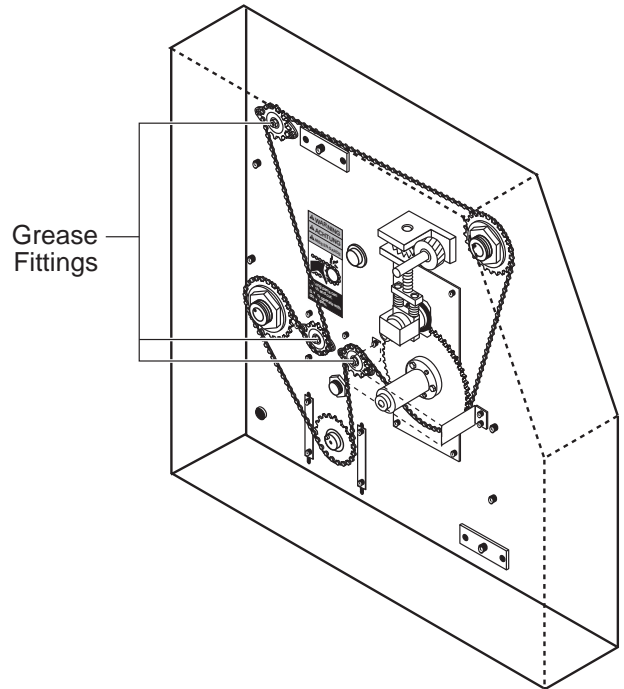

Figure 4-7: Grease Fittings
2. Using the grease gun, lubricate each grease fitting (shown in Figure 4-7) with one squirt of high temperature grease.